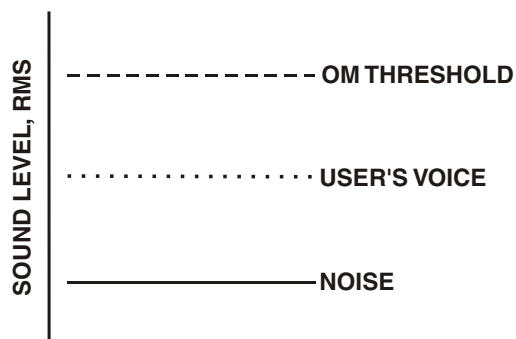
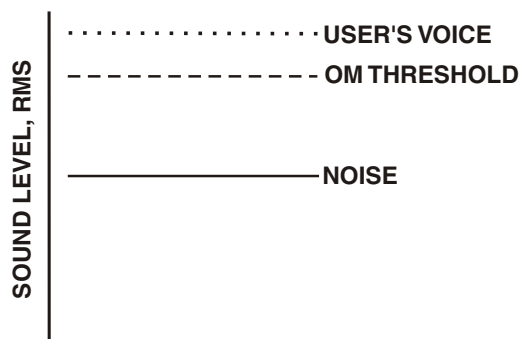

Figure 32
Figure 33
The microphone gain controls on the base station and belt-pack are set to mid-levels by the factory. In most cases this setting will work fine and only on loud speech will the overmodulation (OM) indicator light. However, in environments where the background noise is loud or the user has a strong/quiet voice, the gain control will need to be adjusted. In Figure 32 the gain is set correctly. The user's root-mean-square (RMS) sound level is well below the OM threshold and only on peaks does his or her voice flash the OM indicator light.
Figure 33 displays the same gain setting as in Figure 32 but brought into a high noise environment. The user's voice now lights the OM indicator all the time he or she speaks due to the higher noise plus the user speaking louder. The result on the system is distortion on louder speech. The microphone gain must be reduced. The same applies to a user with a powerful voice. If someone sets the system mic gain to their voice and user has a much stronger voice, then the gain will need to be reduced, even if the background noise is the same.